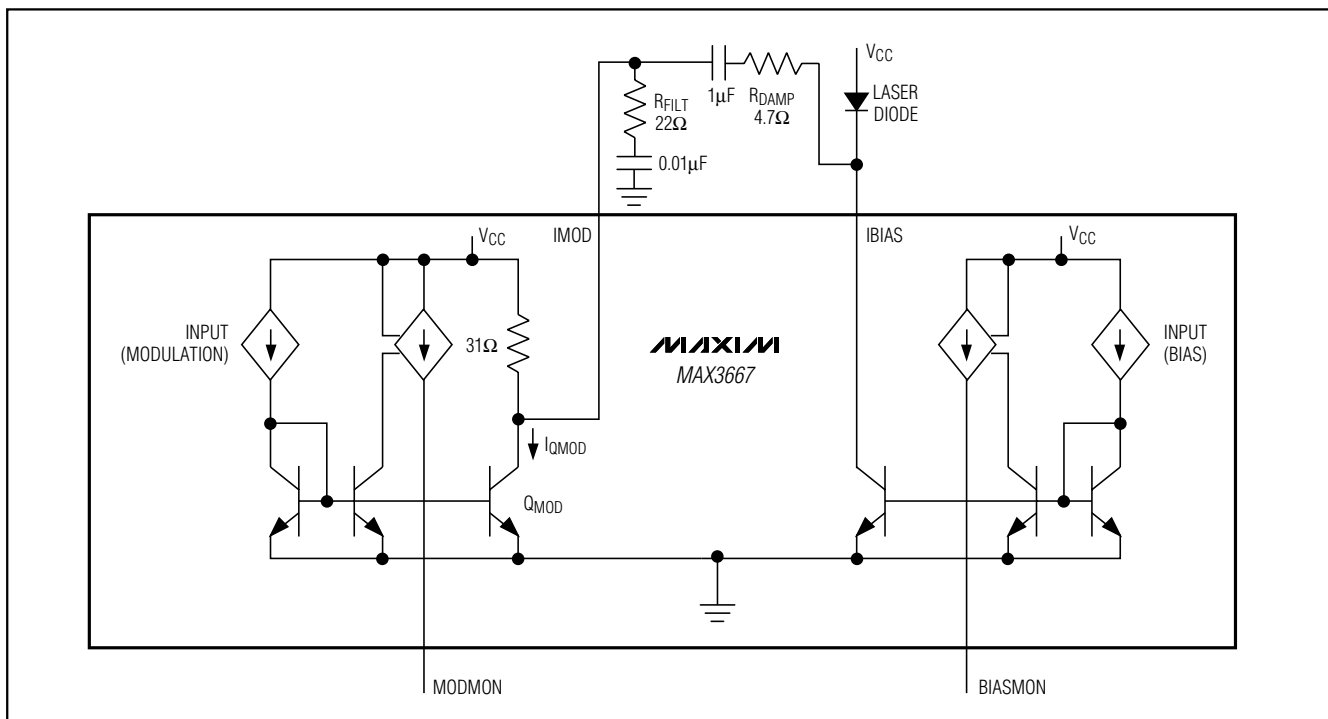

Figure 1. Simplified Modulation Driver Block Diagram
**Note 10:**  $I_{QMOD}$  is the current flowing into the collector of  $Q_{MOD}$  (Figure 1).
Low-voltage operation of laser diodes and optical transmitters produces stringent headroom conditions for laser drivers. Fast changes in modulation current produce large inductive voltage spikes, creating device saturation problems. Therefore, for +3.3V operation, the MAX3667's modulation current should be AC-coupled to the cathode of a laser diode. The recommended DC-blocking capacitor value is  $1\mu\text{F}$ . A simplified block diagram of the modulation driver is shown in Figure 1.
In addition to being a function of RMODSET, IMOD is also dependent on the values of the series damping resistor ( $R_{DAMP}$ ), the shunt compensation resistance ( $R_{FILT}$ ), and the resistance of the laser diode (Figure 1).